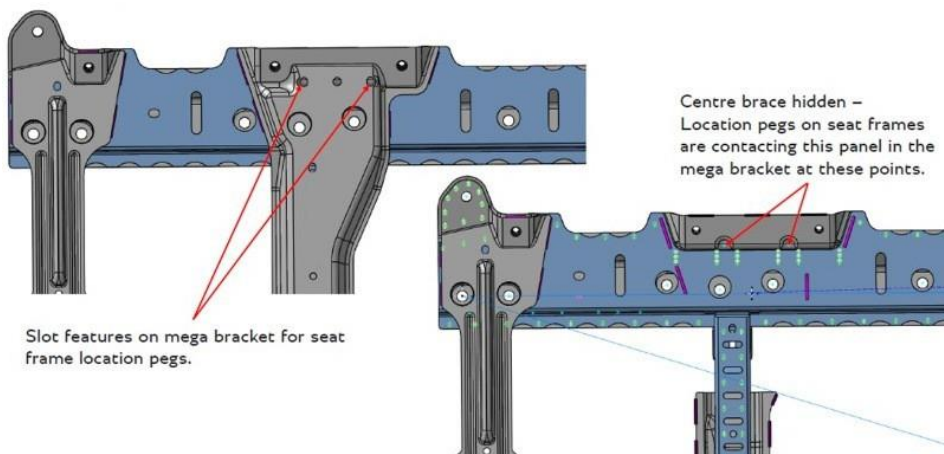

Figure 2
- Refer to Figures 2 and 3 to check for any signs of contact between the Mega bracket and the seat location pegs